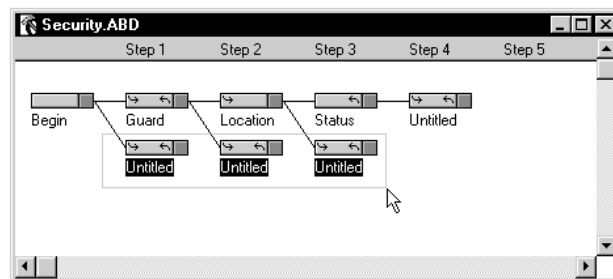
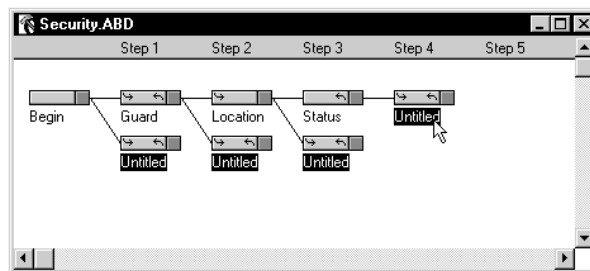

Figure 4-38 Drag Rectangle to Select Input Handlers
Figure 4-39 Shift-click to Select Input Handlers
13. Select the new Input Handlers. In the following diagrams, we select the new Input Handlers by dragging a rectangle around the three at the bottom of the window (Figure 4-38) and Shift-clicking the one attached to the “Status” Handler (Figure 4-39).